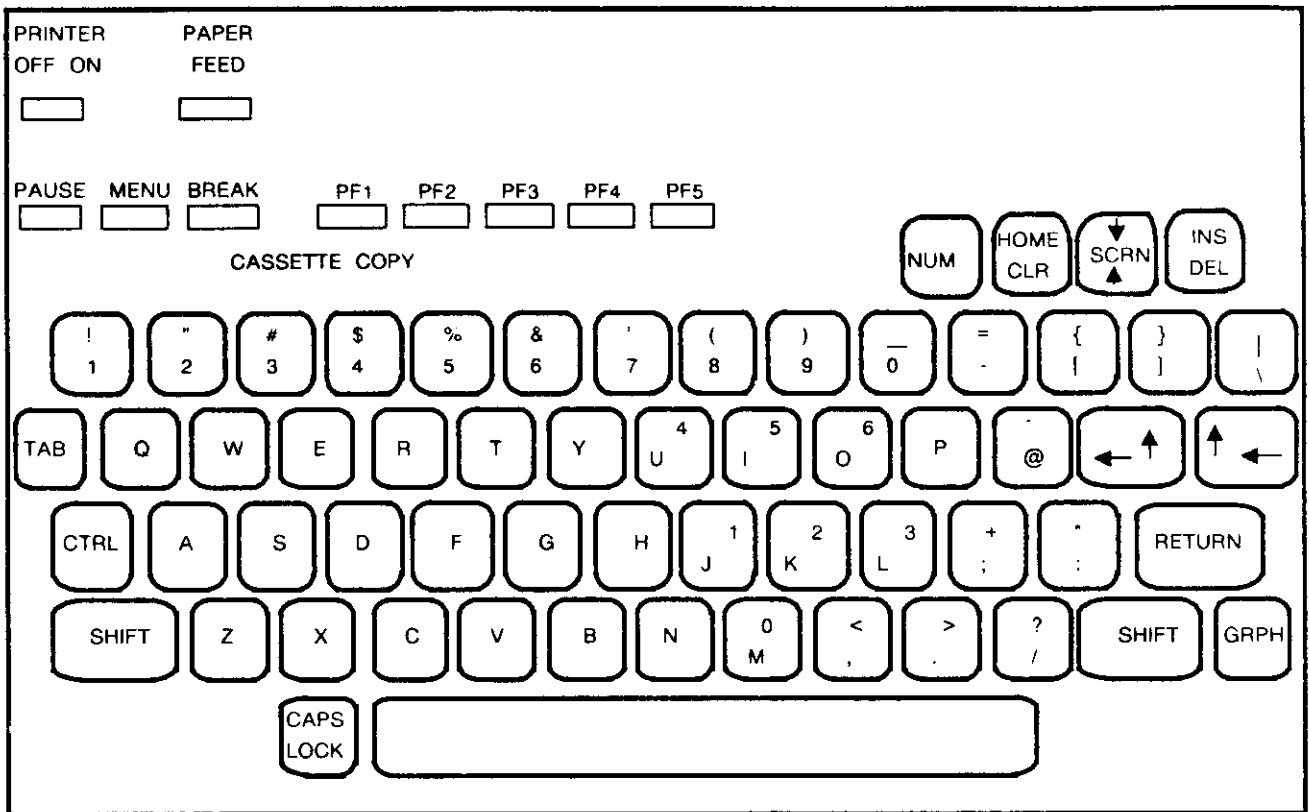

Figure 2.4 PMP Keyboard Layout
2.1.3.1 The PMP keyboard (Figure 2.4) includes keys in standard typewriter format for entry of CMC commands, and a number of